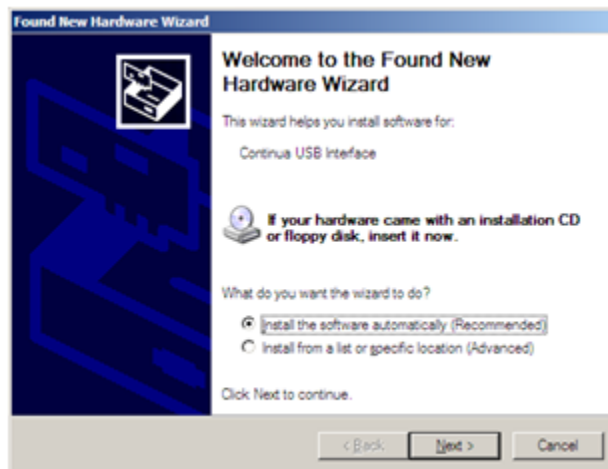
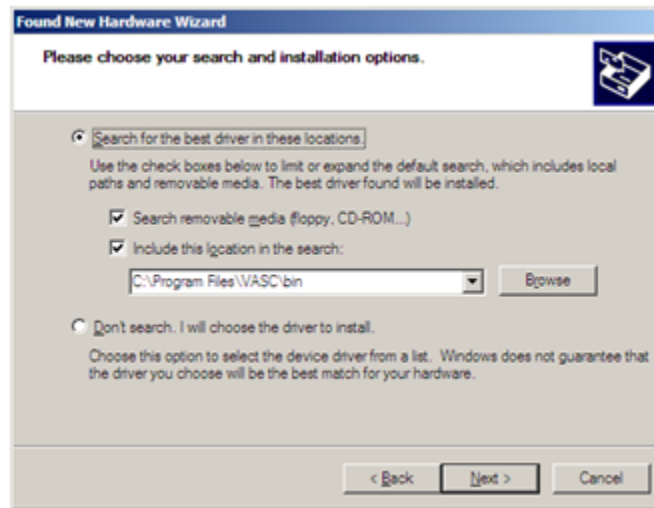

Figure E-1. Found New Hardware window
Figure E-2. Search and Installation options
2. Select **Install from a list or specific location (Advanced)** option as shown in Figure E-1, and click on the **Next** button. Search and installation options window appears as shown in Figure E-2.